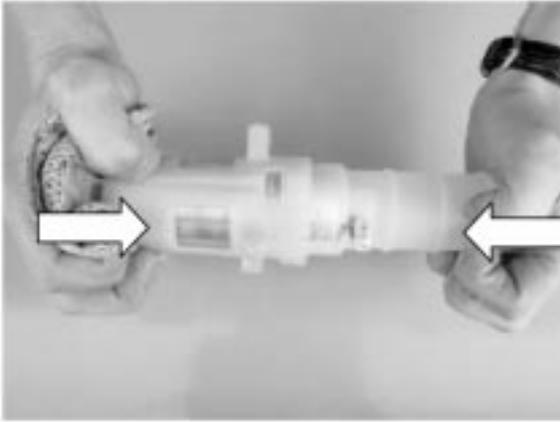

Abb. 9
While pressing is in progress, use a lint-free cloth to prevent damage to the pump's inlet filter (see → fig. 9).
- Now use the tool to insert the pump into the sleeve in such a way that the suction nozzle (29) comes to rest in the corresponding opening (28) in the bottom of the sleeve.
- Use the tool to push the pump firmly into the sleeve. While pressing is in progress, use a lint-free cloth to prevent damage to the pump's inlet filter (see → fig. 9). The pump is inserted sufficiently when the all-round bulge (30) is visible in the recess (31) of the sleeve.